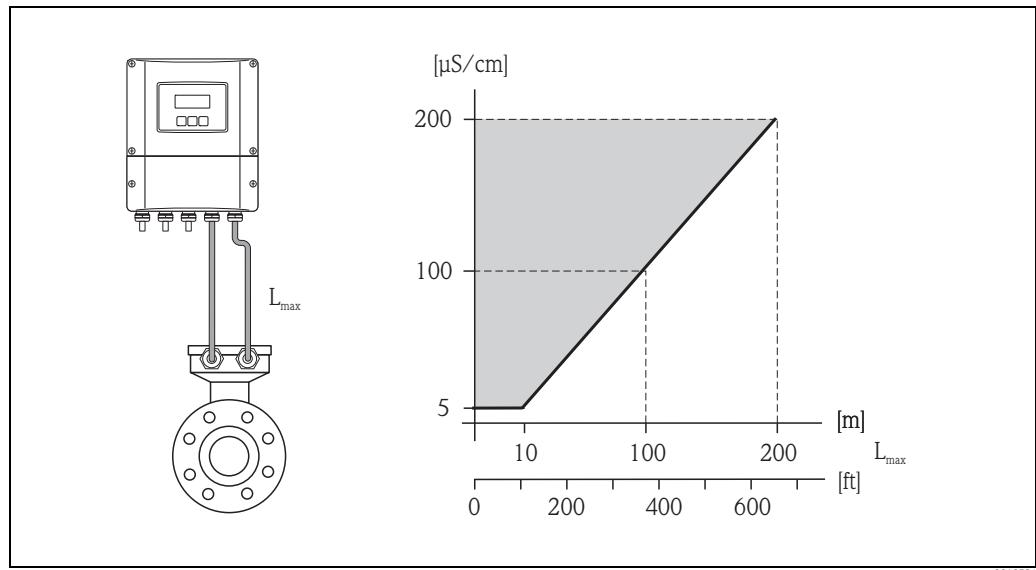

Fig. 16: Permitted lengths for connecting cable in remote version, as a function of the conductivity of the fluid
- The permissible cable length L_{max} depends on the fluid conductivity (\rightarrow Fig. 16).